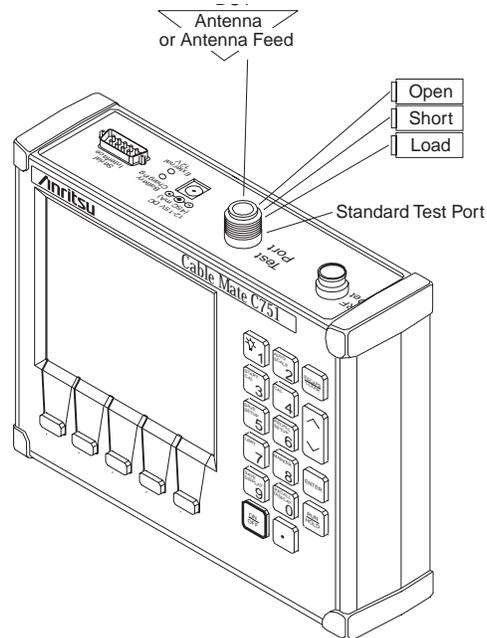

Figure 2-9. Measurement/Calibration Test Setup
“Connect LOAD, Press ENTER” instructions that appear in the message area. Connect the respective Open, Short, and Load component to the test port (Figure 2-9) prior to pressing ENTER.
- Step 7.** Perform a measurement calibration, using the START CAL key. Select CAL A or CAL B. Follow the ensuing “Connect OPEN, Press ENTER,” “Connect SHORT, Press ENTER,” and “Connect LOAD, Press ENTER” instructions that appear in the message area. Connect the respective Open, Short, and Load component to the test port (Figure 2-9, page 2-25) prior to pressing ENTER.